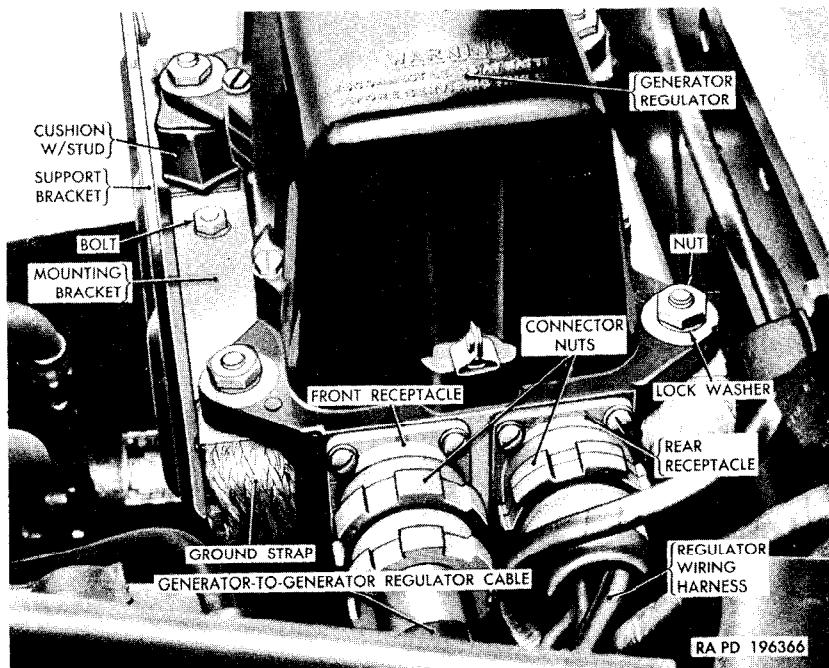
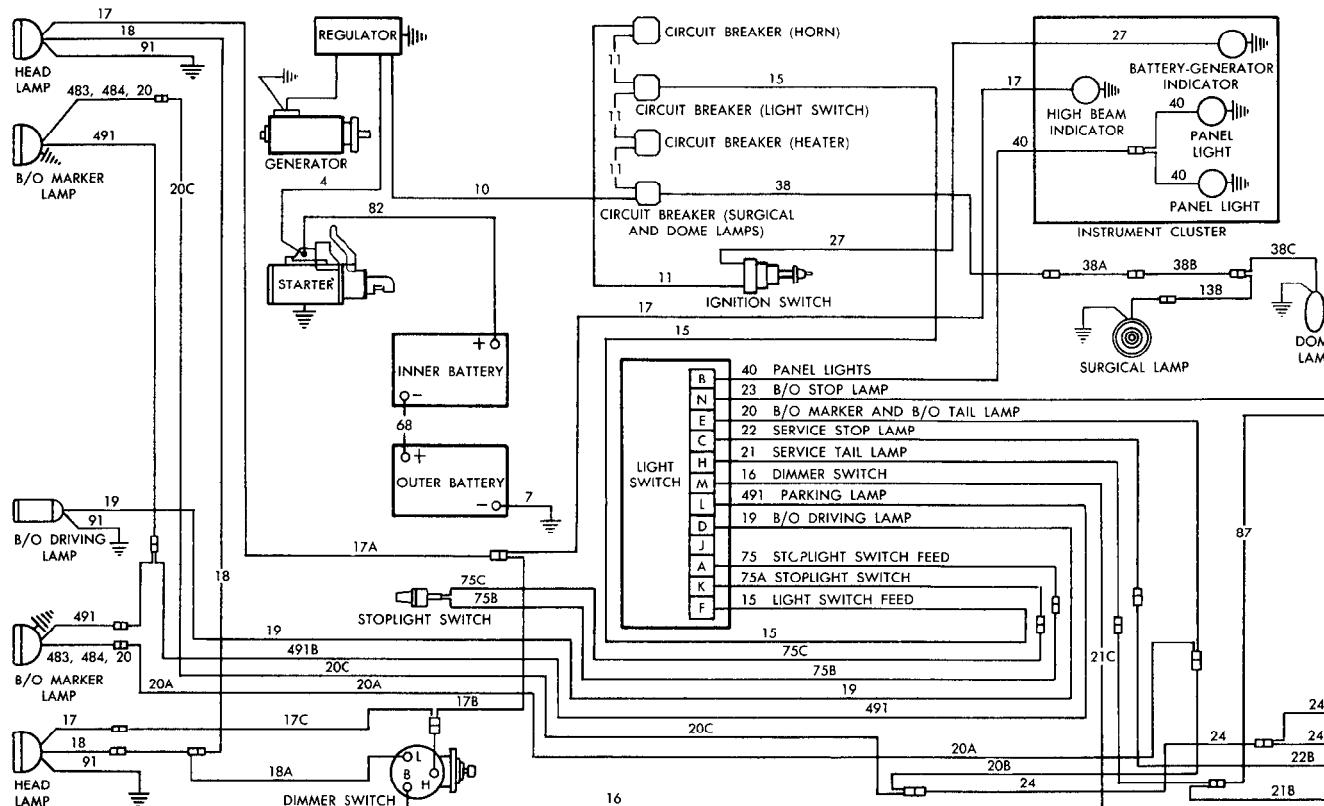
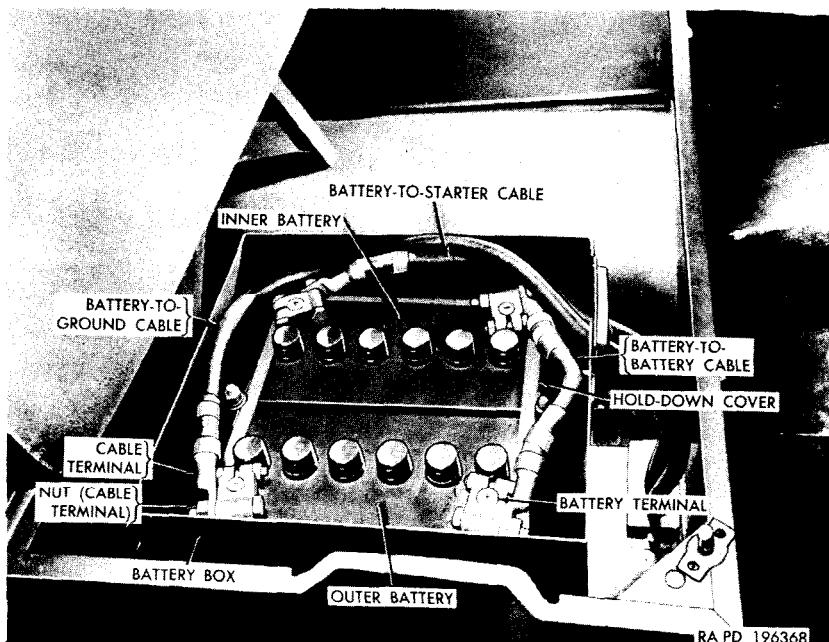
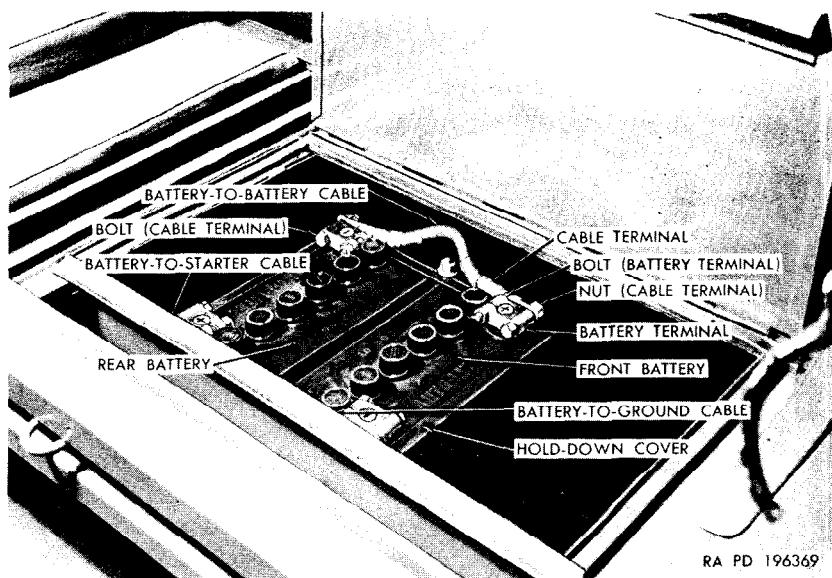

Figure 133. Generator regulator installed
Figure 134. Lighting system wiring diagram.
Figure 135. Battery box location (all models except early production ambulance truck M48).
Figure 136. Battery box location (early production ambulance truck M48).
- (4) Connect the battery-to-ground cable to the negative (-) post of the outer battery (fig. 135).
- (5) Polarize the generator (*g* below).
- (6) Connect the generator-to-regulator cable, turning the connector end nut securely into place with a suitable spanner wrench.
- (1) Remove the four lockwasher screws which secure the left fender-to-hood panel and remove the panel.
- (2) Disengage the cable from the cable clip on the left front fender. Unscrew the generator-to-generator-regulator cable connector end nuts from the receptacle (C) and the front receptacle of the generator regulator (fig. 133), and remove the cable.
- (3) Connect the cable to the generator receptacle (C) and the front receptacle of the generator regulator (fig. 133), screwing the connector end nuts to the receptacles. Engage the cable in the cable clip on the left front fender.
- (4) Position the left fender-to-hood panel and install the four lockwasher screws. Tighten the screws.
a. Remove Generator Regulator (fig. 133).
- (1) Disconnect the battery-to-ground cable from the negative (−) post of the outer battery (fig. 135).
- (2) Remove the left fender-to-hood panel (par. 164*h*(1)).
- (3) Disengage the generator-to-regulator cable from the cable clip on the left front fender. Disconnect the generator-to-regulator cable and the regulator wiring harness from the generator regulator receptacles, using a suitable spanner wrench.
- (4) Remove the four nuts and lockwashers that secure the regulator, and remove the regulator.
b. Remove Cushions, Regulator Brackets, and Ground Straps (fig. 133).
- (1) Unscrew the four cushions with studs from the mounting brackets, and remove the cushions and ground straps.
- (2) Remove the four nuts, lockwashers, and bolts that secure the two mounting brackets to the regulator support bracket, and remove the two brackets.
d. Install Regulator Brackets, Cushions, and Ground Straps (fig. 133).
- (1) Make certain that the contacting surfaces of the mounting brackets and the ground straps are thoroughly clean, to insure a good ground connection.
- (2) Position the two mounting brackets on the support bracket and install the two $\frac{1}{4}$ -28NF x 1 bolts (from the upper side of the brackets), $\frac{1}{4}$ x 0.760 internal-external-teeth lockwashers, and $\frac{1}{4}$ -28NF nuts for each bracket. Tighten the nuts.
- (3) Place one end of a ground strap over each cushion stud opening in the two mounting brackets. Install the four cushions, screwing the short end of each stud into the support bracket hole.
- (1) Place the outer end of each ground strap on the upper end of its cushion stud, position the regulator on the four cushion studs with the two receptacles to the left side of vehicle, and install the four $\frac{5}{16}$ -inch lockwashers and $\frac{5}{16}$ -18NC nuts (fig. 133). Tighten the nuts.
- (2) Connect the regulator wiring harness to the rear receptacle and the generator-to-generator-regulator cable to the front receptacle, screwing the connector end nuts to the receptacles. Engage the generator-to-generator-regulator cable in the cable clip on the left front fender.
- (3) Install the left fender-to-hood panel (par. 164*h*(4)).
- (1) Current for the 24-volt lighting system (fig. 134) is supplied by two 12-volt batteries. Batteries (fig. 135) for all models, except the early production models of the ambulance truck M43, are located in a box under the passenger's seat in the driver's compartment. Batteries (fig. 136) for the early production vehicles of the ambulance truck M43) (par. 6) are located in the left front compartment under the patient's seat.
- (2) Organizational maintenance of the batteries and lighting system includes cleaning, inspection, and replacement of the batteries and battery cables, replacement of lamps, lamp-units, lights, light switch, dimmer switch, and circuit breakers.
- (1) Loosen the nut on the battery terminal bolt at the negative (-) post of the outer battery (fig. 135) or front battery (fig. 136) and remove the terminal with attached ground cable. Remove the battery-to-battery cable and the battery-to-starter cable in the same manner. Remove the insulator from the positive (+) post of the inner battery (fig. 135) or rear battery (fig. 136) if so equipped.
- (1) For vehicles with the batteries under the passenger seat, install the batteries in the battery box with the negative (-) post of the inner battery toward the front and that of the outer battery (fig. 135) toward the rear. For ambulance truck M43 with batteries in the patient compartment, install the front battery with the negative (-) post toward the center of the vehicle and that of the rear battery toward the left side of the vehicle (fig. 136).
- (2) Install the holdown cover and install the $\frac{3}{8}$ -inch flat washers and $\frac{3}{8}$ -16NC nuts on the two holdown cover bolts. Tighten the nuts.
- (3) Lubricate the battery posts (par. 167a(2)). Install the battery-to-battery cable and battery terminals, being sure to install each terminal on the correct battery post (positive on positive and negative on negative (figs. 135 or 136).
- (4) Install the rubber insulator on the positive post of the inner
- battery (fig. 135), or the rear battery (fig. 136), if required. Refer to NOTE in b(1) above. Install the battery-to-starter cable and battery terminal on the battery post.